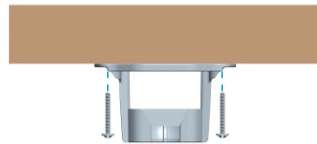

Fig 7.2
**Note:** The wooden ceiling beam must meet the tensile test of 30KG for installation, as shown in Fig 7.2. It is also possible to install the mounting bracket directly to the concrete ceiling and install four screws (not included) to the left and right corresponding holes of the bracket to lock the ceiling.